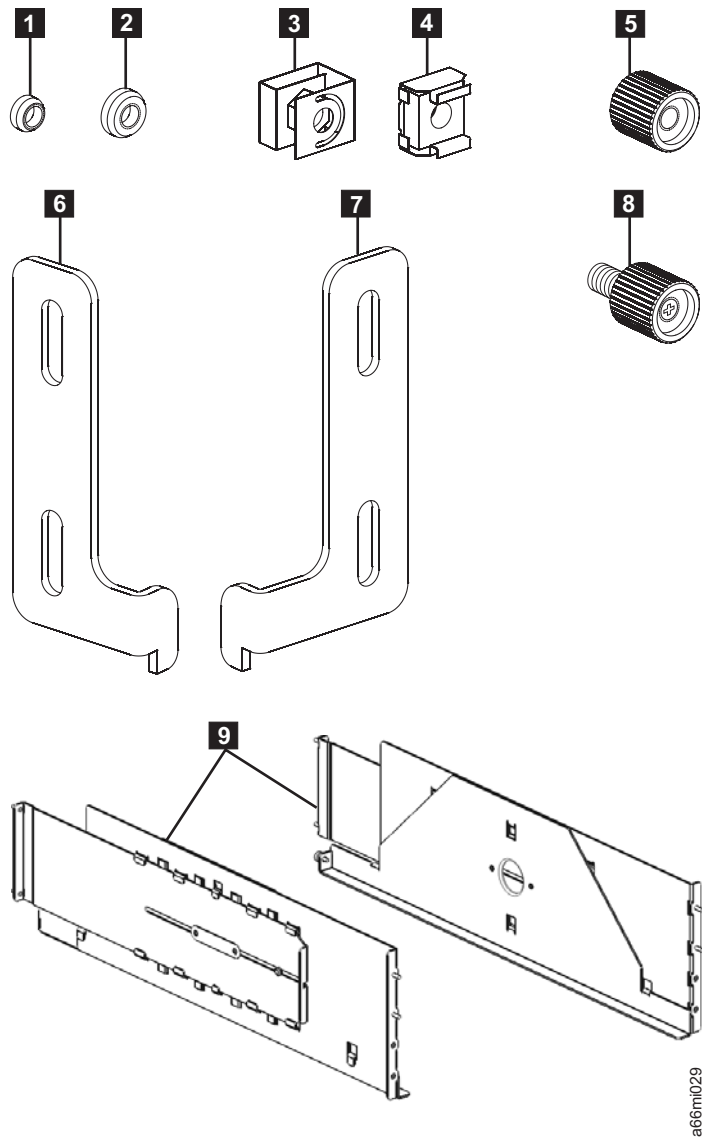

Figure 3-11. Rack Mount Kit hardware (parts not sized proportionately in figure)
16	Centering nuts: <ul style="list-style-type: none"> • 8 for racks with round holes (1 in Figure 3-11) • 8 for racks with square holes (2 in Figure 3-11)
8	Black thumb nuts (5 in Figure 3-11)
2	Rack ears (6 and 7 in Figure 3-11)
4	Rack ear screws (8 in Figure 3-11)
2	Rails (9 in Figure 3-11)
8	Clip/Cage nuts: <ul style="list-style-type: none">• 4 clip nuts for racks with round holes (3 in Figure 3-11 on page 3-12)• 4 cage nuts for racks with square holes (4 in Figure 3-11 on page 3-12)
2	Rack ears (6 and 7 in Figure 3-11 on page 3-12):
4	Rack ear screws (8 in Figure 3-11 on page 3-12):
The rails (**9** in Figure 3-11 on page 3-12) in the Rack Mount Kit will be used to support the bottom unit of your library, and require 5 EIAs (or 15 holes) of vertical rack space. However, there are only 4 rail studs on each rail, positioned in a staggered manner for increased stability. For proper installation, you must first determine where the bottom of your library will be, then identify which holes you'll use for the rail studs and place either cage nuts (for racks with square holes) or clip nuts (for racks with round holes) in the appropriate locations.
3. Install clip nuts (**3** in Figure 3-11 on page 3-12) for vertical rack rails with round holes or cage nuts (**4** in Figure 3-11 on page 3-12) for vertical rack rails with square holes in the front rack rails in the marked positions.
5. Install clip nuts (**3** in Figure 3-11 on page 3-12) for vertical rack rails with round holes or cage nuts (**4** in Figure 3-11 on page 3-12) for vertical rack rails with square holes in the front rack rails in the marked positions.
- Use the round hole centering nuts (**1** in Figure 3-11 on page 3-12) for vertical rack rails with round holes.
- Use the square hole centering nuts (**2** in Figure 3-11 on page 3-12) for vertical rack rails with square holes.
- b. Place a thumb nut (**5** in Figure 3-11 on page 3-12) on each stud and tighten.